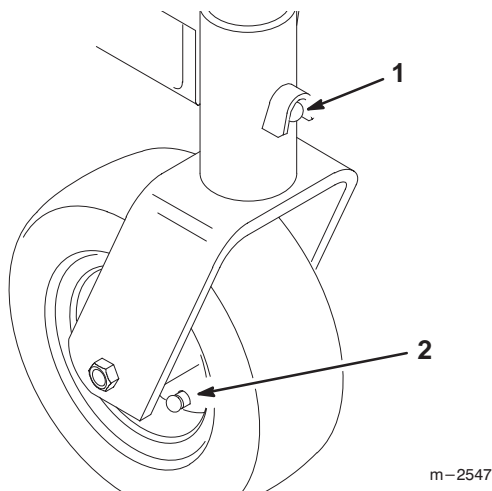

Figure 21
3. Grease the fittings on the carrier frame mounting tubes and castor wheels (Fig. 21).